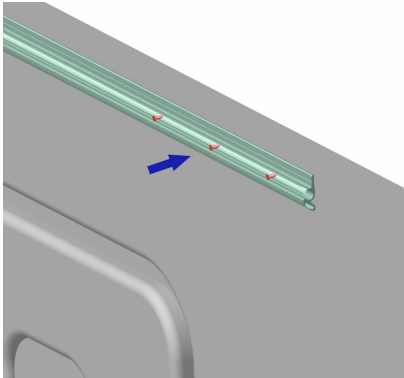
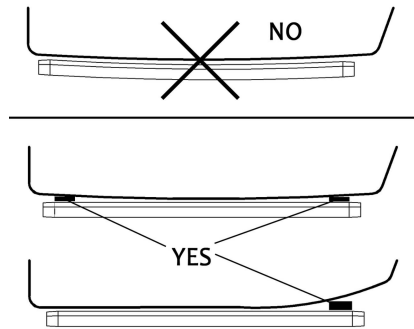

Figure D4
Figure D5
3.1 Take out the fabric rail and fix it on the outside of the vehicle body with screws B (Figure D4). The fabric rail should be installed horizontally, and if not, it should be leveled (the cushion block should be provided) (Figure D5). If the vehicle body is pre-install-ed with a fabric insertion slot, this step can be omitted and the fabric rail not need to be used.